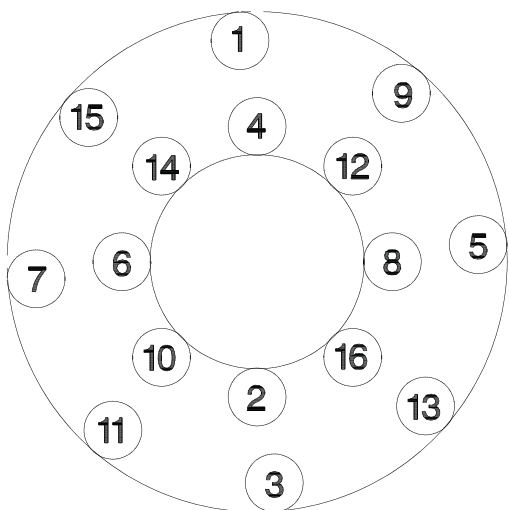

Figure 17
4.6.8 For each wear plate being replaced, follow the tightening sequence shown in **Figure 17** for the first 16 screws. The remaining screws may be tightened in any reasonable crosswise pattern. See Table 11 for tightening torque values.